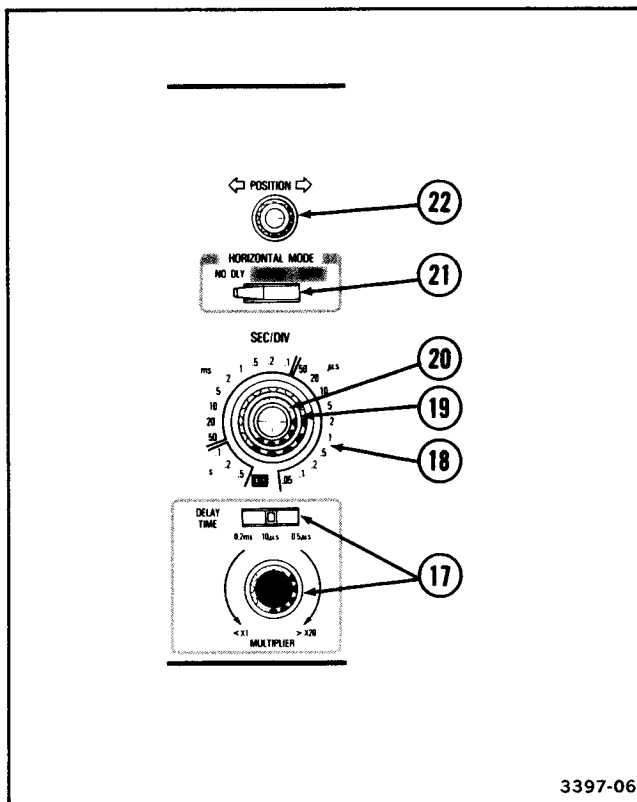

Figure 2-5. Horizontal controls.
Refer to Figure 2-5 for location of items 17 through 22.
- ①7 **DELAY TIME**—Two controls are used in conjunction with INTENS and DLY'D HORIZONTAL MODE to select the amount of delay time between the start of the sweep and the beginning of the intensified zone.